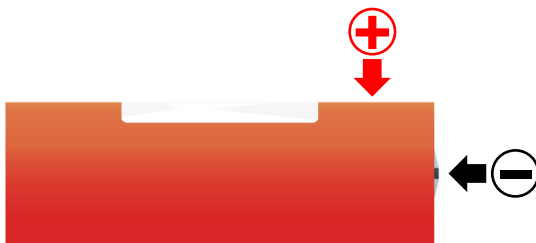

Figure 14: LF-ULD type with one water switch pin
**Note:** Here the entire housing forms the positive pole (red marked in Figure 14).